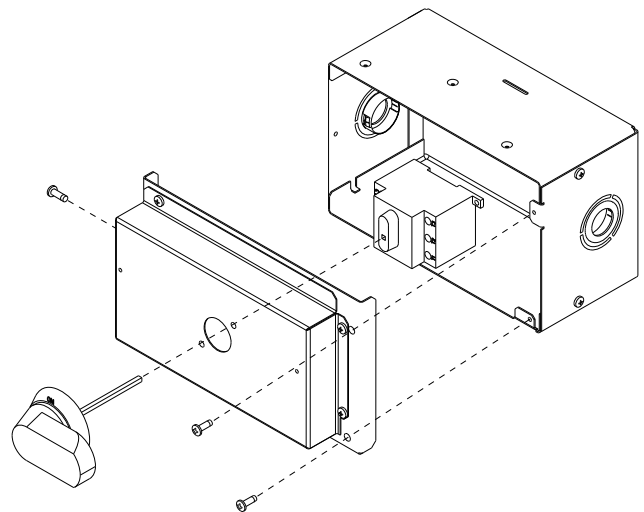

Fig. 29 — NFD Handle and Shaft Assembly
2. Remove 3 cap head screws that secure the NFD enclosure front cover — 2 on the face of the cover and 1 on the left side cover. See Fig. 29.
5. Insert the shaft with the cross pin on the top of the shaft in the horizontal position. See Fig. 29.